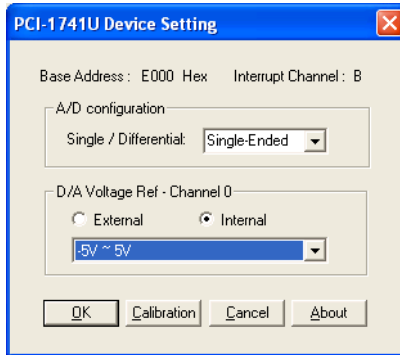

Figure 2.5: *The Device Setting Dialog Box*
Step 4: In the Device Setting dialog box (Figure 2.5), you can configure the A/D channel as Single-ended or Differential and choose the D/A channel reference voltage source type..